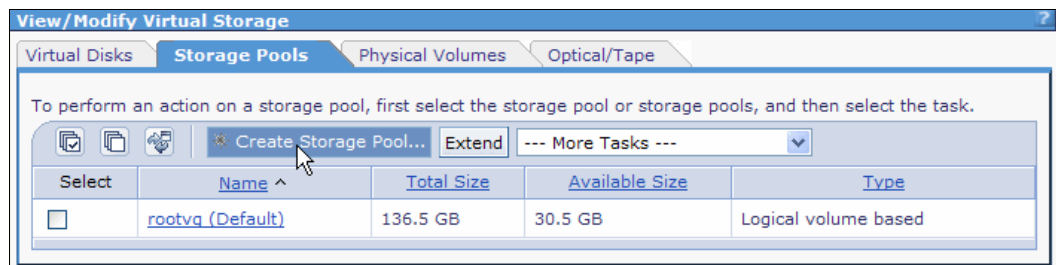

Figure 4-5 Create Virtual Storage
3. Click **Create Storage Pool** in the work area, as shown in Figure 4-5.